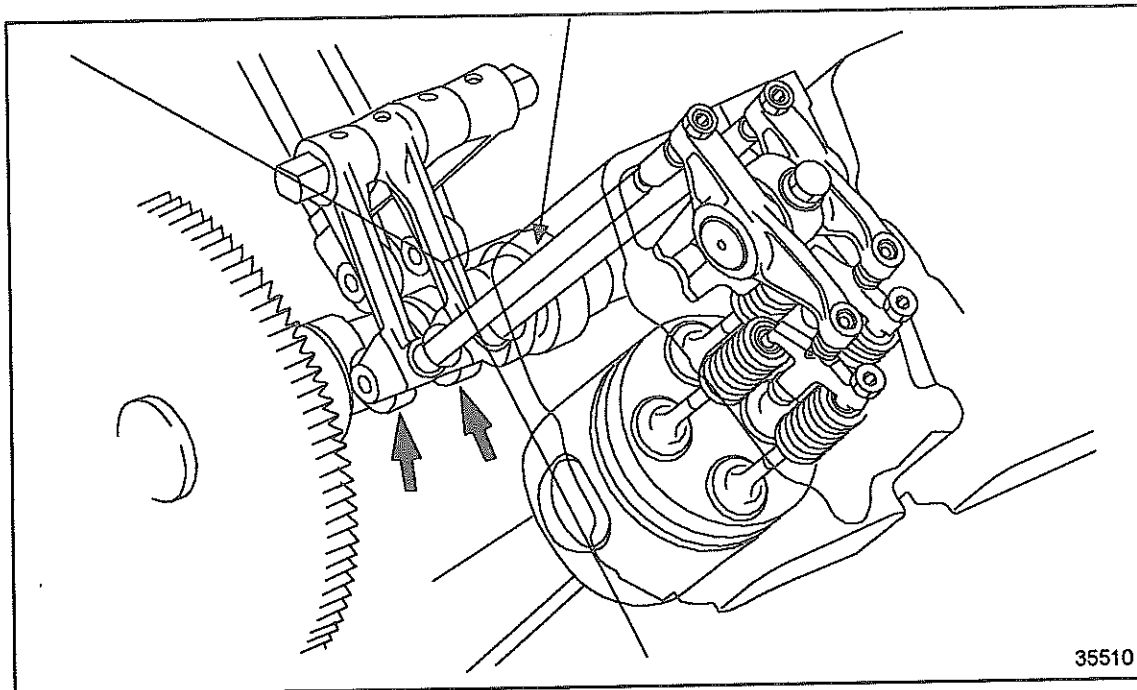

Figure 482 Position of Swing Arm Rollers at Firing TDC
29. Using the barring tool, set piston of cylinder to be checked to firing TDC. See Figure 482.